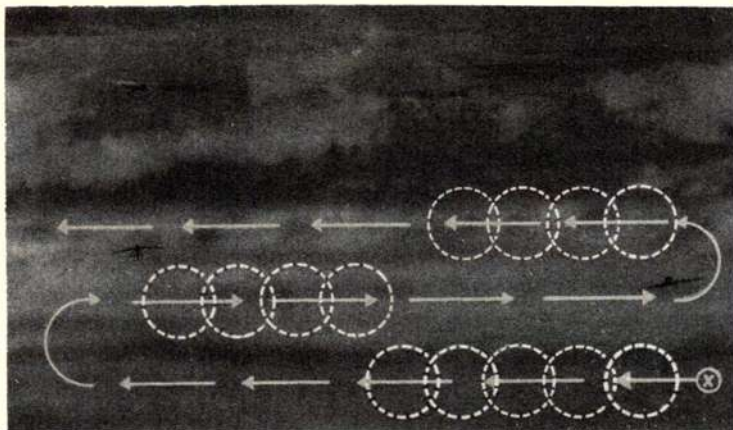

Figure 3-2-2. Night searching technique.
**Searching at night.** When you are searching at night, do not sweep the sky or sea at random. Keep your eyes on a small area for about a second, then move them quickly to another small area, and so on, systematically covering all quadrants, as illustrated in figure 3-2-2.